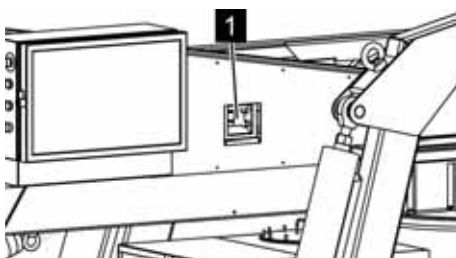

Fig. 153: Circuit breaker
2. ➔ Open cover of the FI box (Fig. 153/1).
4. ➔ Close cover of the FI box (Fig. 153/1).